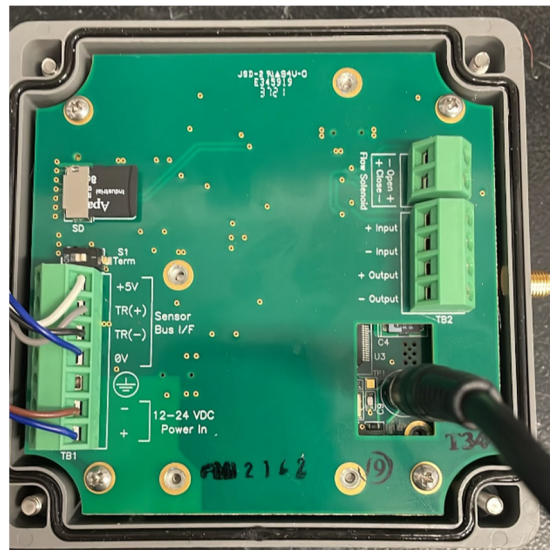

Figure 12: MetriNet PC cable connection
2. Plug the other end of the serial cable into the jack on the PCB inside the monitor as shown in Figure 12.